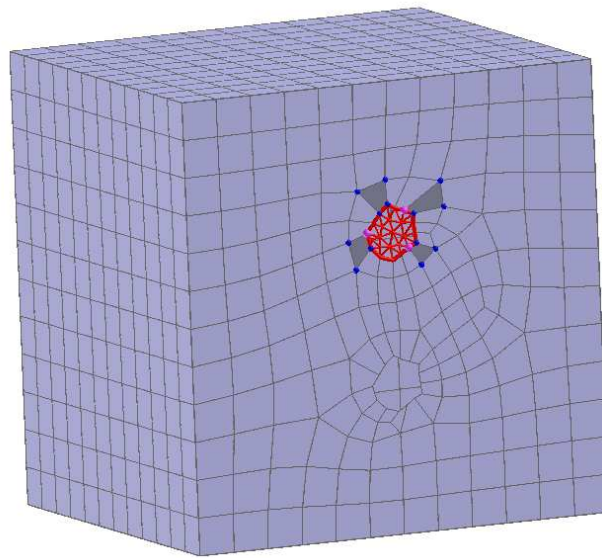

Figure 9.15: Fill hole using triangle elements.
- Pick the nodes until a unique closed loop is identified by the appearance of triangle elements filling the hole as shown in Figure 9.15.